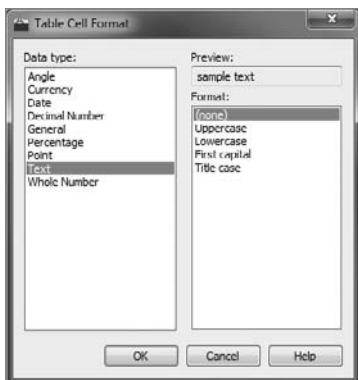

FIGURE 9.61 Changing the data format in the Table Cell Format dialog box
8. Set Text Height to 6" (152). Leave Text Color and Text Angle at their default settings.
- 9.** Switch to the General tab, click the ellipsis button at the end of the Format row and, in the Table Cell Format dialog box, change Data Type to Text and Format to (None), as shown in Figure 9.61; then click OK.